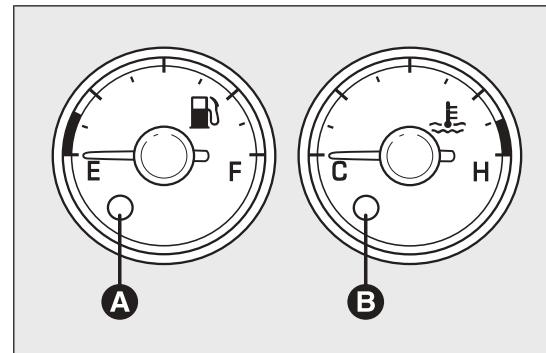

fig. 3
Warning light A fig. 3 comes on to indicate that approximately 8-10 litres of fuel are left in the tank.
**IMPORTANT** The needle will point to E and warning light A fig. 3 will flash to indicate a fault in the system. Contact a Fiat Dealership to have the system checked.
Warning light B fig. 3 may light up (and a message on the display may appear on certain versions) to indicate that the coolant fluid temperature is too high; in this case, stop the engine and contact a Fiat Dealership.